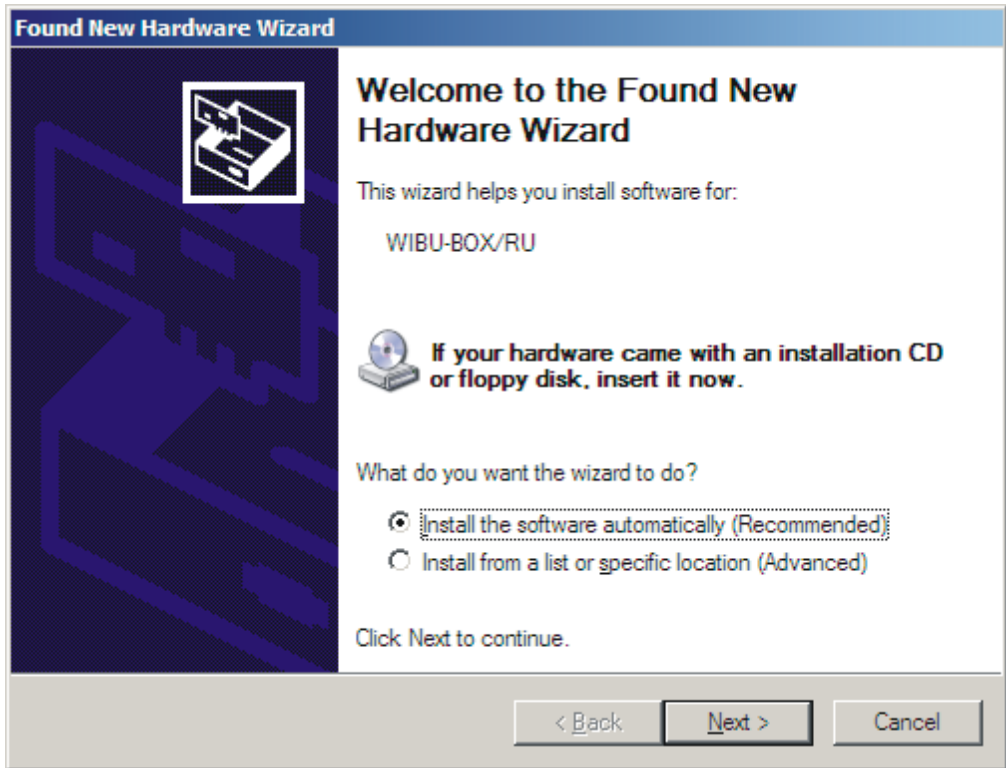

Figure 4. Windows Found New Hardware Wizard
- Select the **Install the software automatically (Recommended)** option (see Figure 4) (it is not necessary to insert a hardware installation CD or floppy disk).